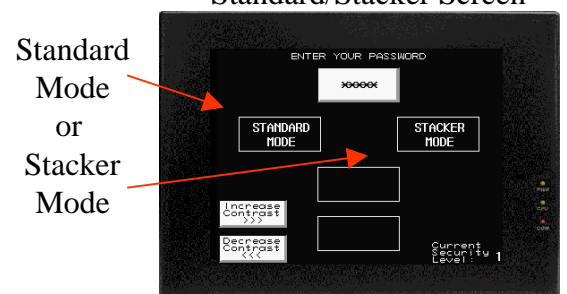

Fig 5
- 5 Press "Standard" or "Stacker" (fig 5) to finish
- 4 Enter "95125" Password (fig 5)
- 5 Press "ENT" Enter (fig 5)